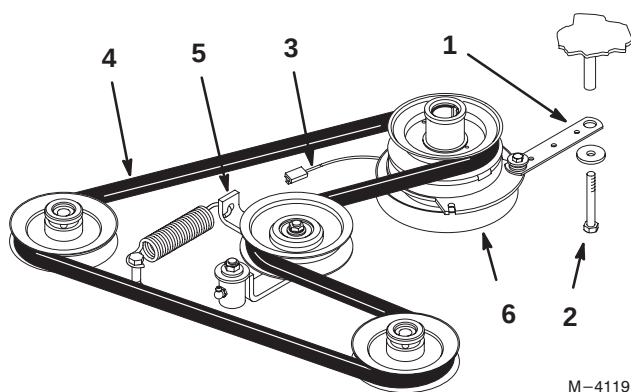

Figure 47
2. Remove bolt from clutch strap and unplug clutch electrical wire. (Fig. 47).
3. Pull spring loaded idler to side. Remove traction belt from the engine and hydro pump pulleys (Fig. 47).
4. Install new belt around engine and hydro pump pulleys (Fig. 47).
5. Pull spring loaded idler to side and align belt. Release pressure on spring loaded idler (Fig. 47).